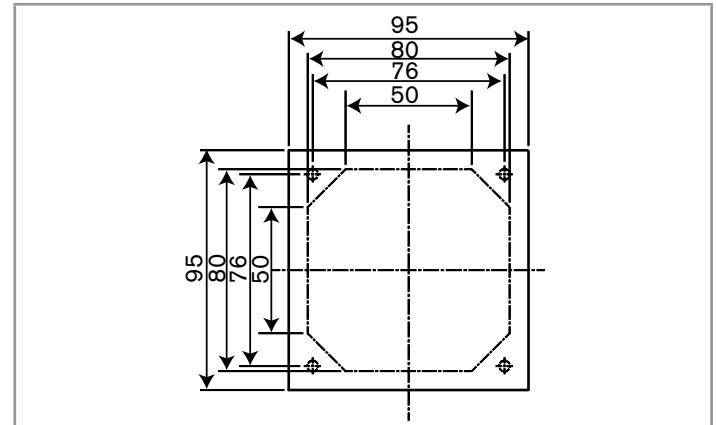

Fig. 10: Dimensions [mm] of the electrical cabinet frontage cutting plan
- Respect the dimensions indicated in Fig. 10 to cut the opening in the electrical cabinet door.